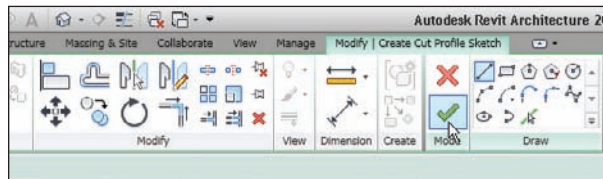
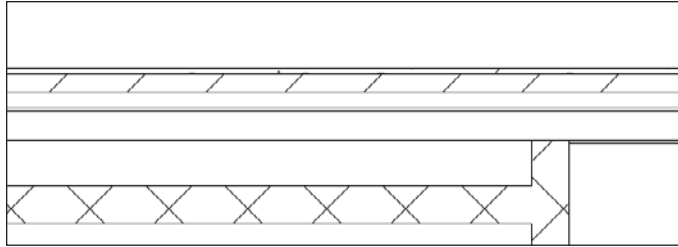

FIGURE 2.63 Clicking Finish Edit Mode will finalize the session and complete the command.
FIGURE 2.64 The finished wall with the drywall deducted from the core of the chase
10. What you see here is called the Sketch Mode. Since you are done “sketching” the cut profile, click Finish Edit Mode, as you can see in Figure 2.63. Figure 2.64 shows the final result.